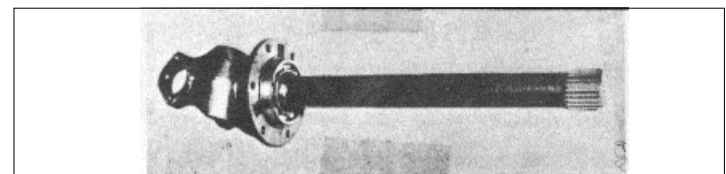

Fig. 13
- (o) The sequence of parts for the output shaft and yoke assembly is shown in Fig. 13. (Front rear drive axle only).